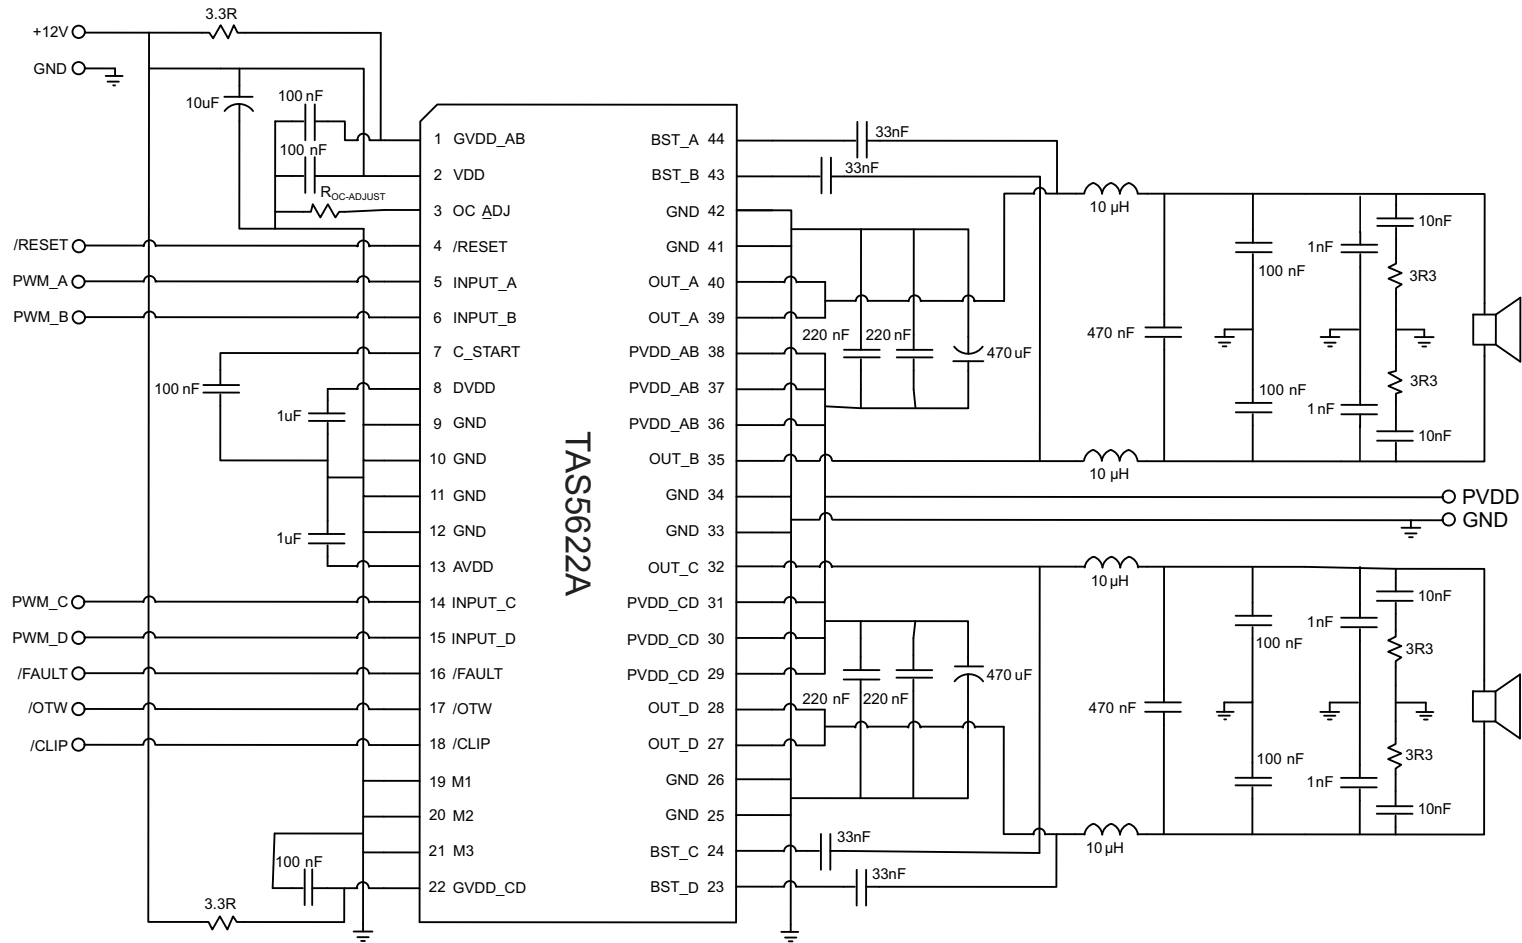

Figure 16. Typical Differential (2N) BTL Application With AD Modulation Filters
See Figure 16 for application schematic. In this application, differential PWM inputs are used with AD modulation from the PWM modulator (that is, TAS5558). AD modulation scheme is defined as PWM(+) is opposite polarity from PWM(-).
- Pins 27, 28, 32, 35, 39, 40 - Output pins from half-bridges A, B, C, and D. Connect appropriate bootstrap capacitors and differential LC filter as shown in Figure 16.
- Pins 29, 30, 31, 36, 37, 38 - Power supply pins to half-bridges A, B, C, and D. A and B form a full-bridge and C and D form another full-bridge. A 470- μ F bulk capacitor is recommended for each full-bridge power pins. Two 0.22- μ F decoupling capacitors are placed on each full-bridge power pins. See Figure 16 for details.